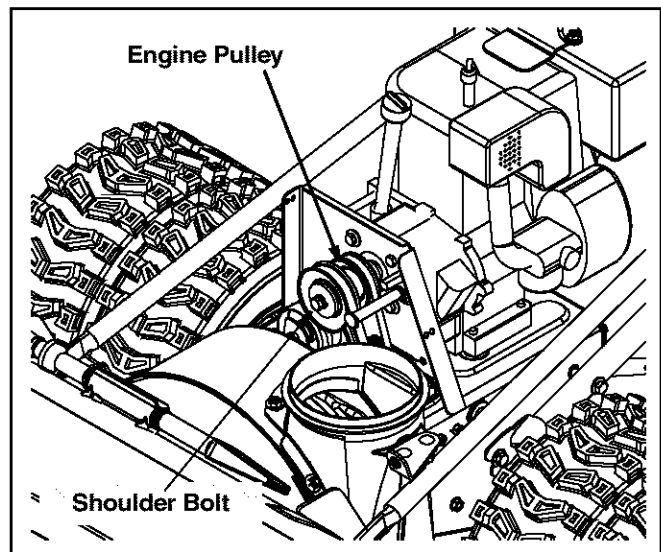

Figure 18
- Remove the large shoulder bolt and washer on the left hand side of the engine pulley. See Figure 18.
- Secure the two halves with the two bolts and lock washers removed earlier. Refer to Figure 18.
- Insert ferrule on auger idler rod into bracket assembly and secure with flat washer and cotter pin. Reassemble the large shoulder bolt and lock washer as shown in Figure 18.